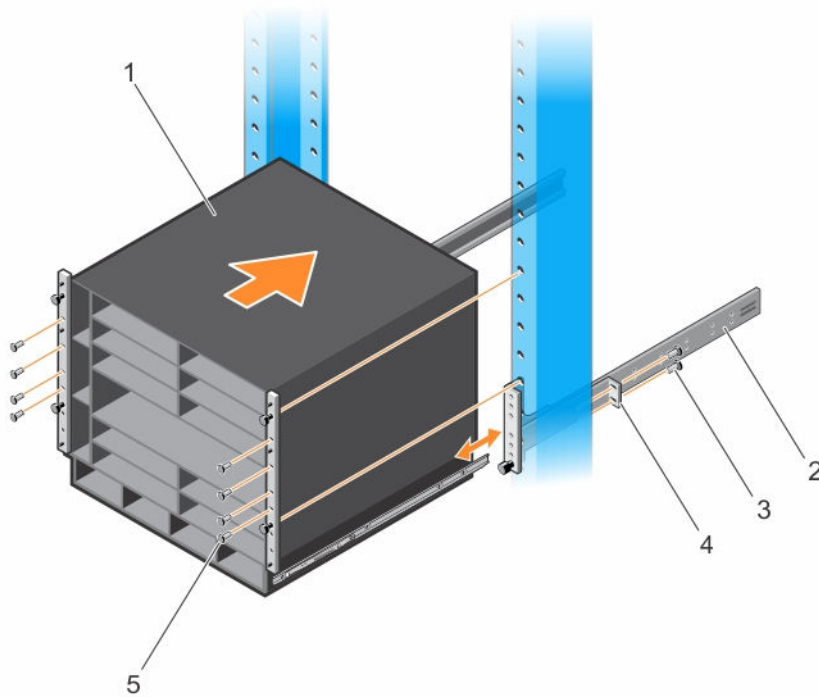

Figure 16. Installing the Chassis with ReadyRails in a Threaded-Hole Rack
4. Lift the chassis and slide it into the rails installed in the rack (Figure 16). Tighten the two thumb screws and four rack screws (item 5 in Figure 16) on each flange to secure the chassis to the rack. On a 2-post rack, slide each rail bracket (item 4 in Figure 16) forward to the post. Tighten the two screws (item 3 in Figure 16) to secure the bracket to each post.